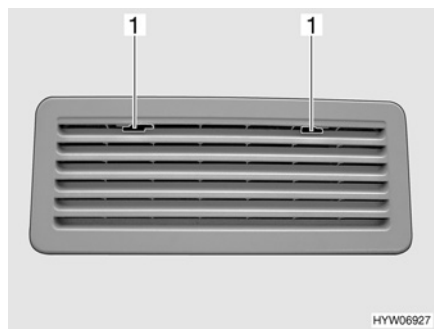
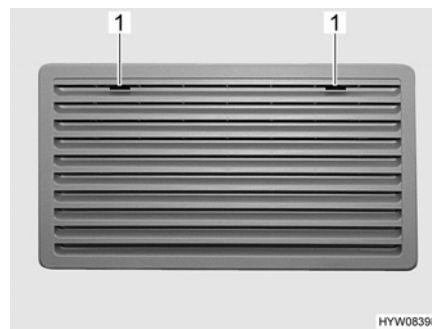

Fig. 95 Refrigerator ventilation grill (Thetford)
Fig. 96 Refrigerator ventilation grill, large (Thetford)
- Move the locking device (Fig. 95,1 or Fig. 96,1) to the middle.